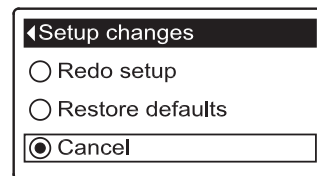

FIG. 151
7. Press the SELECT (O) button to display the Setup changes menu (See Figure 151).
8. If the desired option already has a black dot next to it (See Figure 151), go to Step 9. Otherwise, press the DOWN (▼) or UP (▲) buttons to scroll to the desired option, then press SELECT (O) to choose it.